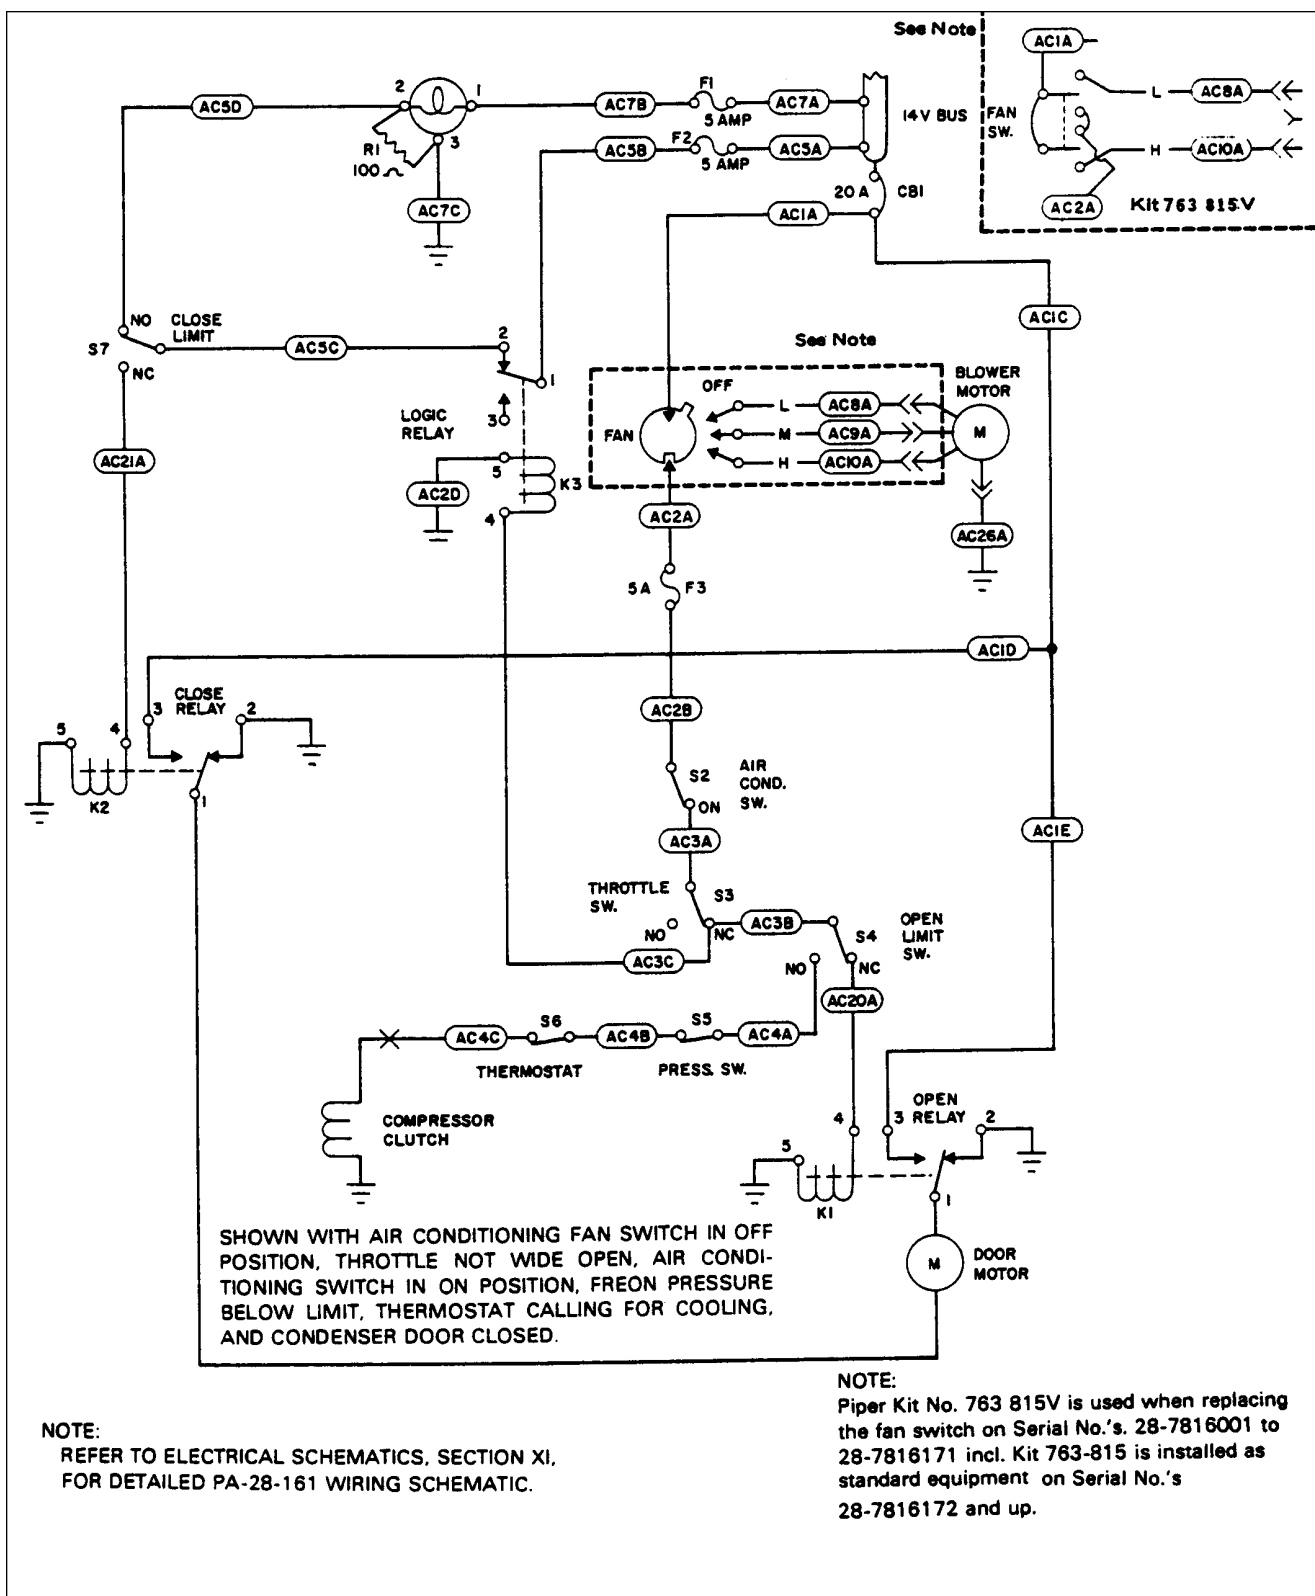

Figure 14-14. Typical Air Conditioning Wiring Schematic
- h. Make and check electrical connections. (Refer to Figure 14-14.)